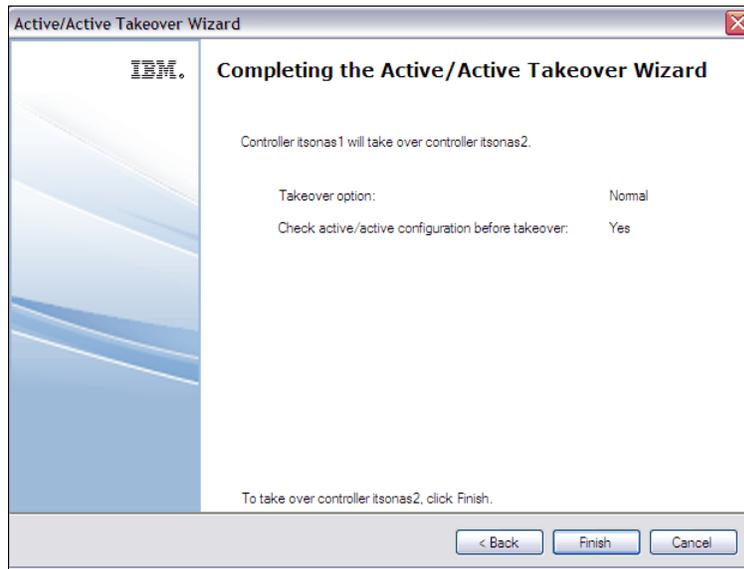

Figure 7-9 System Manager initiating takeover: Step 3
4. Figure 7-9 shows the Active/Active takeover wizard step 3. Click **Finish** to continue.